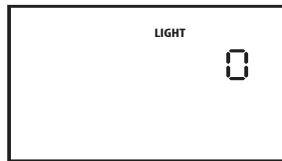

Figure 6–10 LED Backlight Setting Screen
- From either the Monitoring or Standby screens, press the Right User button until the LED Backlight Setting screen appears, as shown in Figure 6–10.